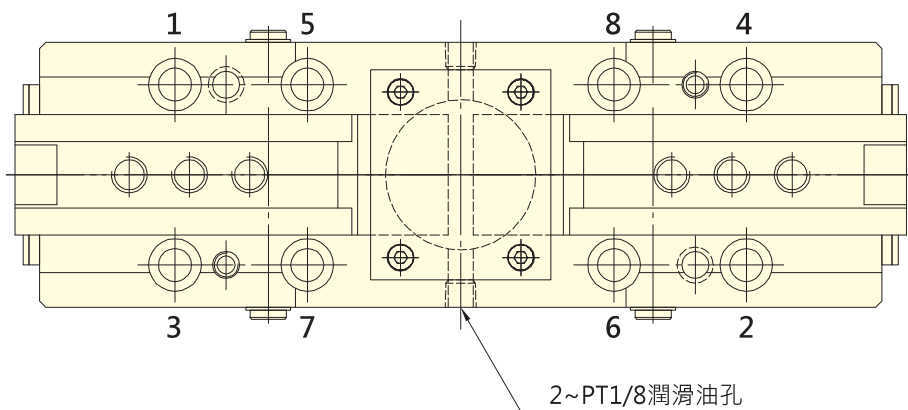

Fig.1
- Tighten the installation bolt of procedure(Fig.1) : 1-2-3-4-5-6-7-8, the tightening strength unequally may cause the body to deformed, as well caused seize phenomenon for the master jaw.